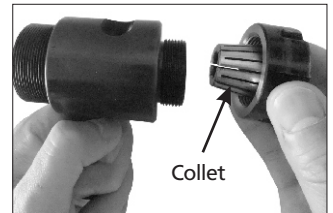

Fig.1-5
5. Rotate the nut to remove the nut and the collet from the coning tool housing when replacing the collet. (Fig.1-5)